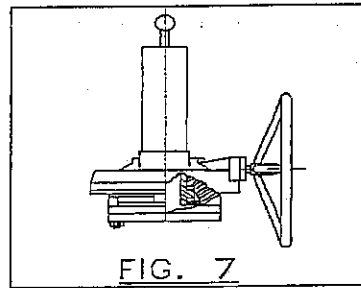

FIG. 7
- *Figure 7* ► it represents a valve with actuation by hand wheel.